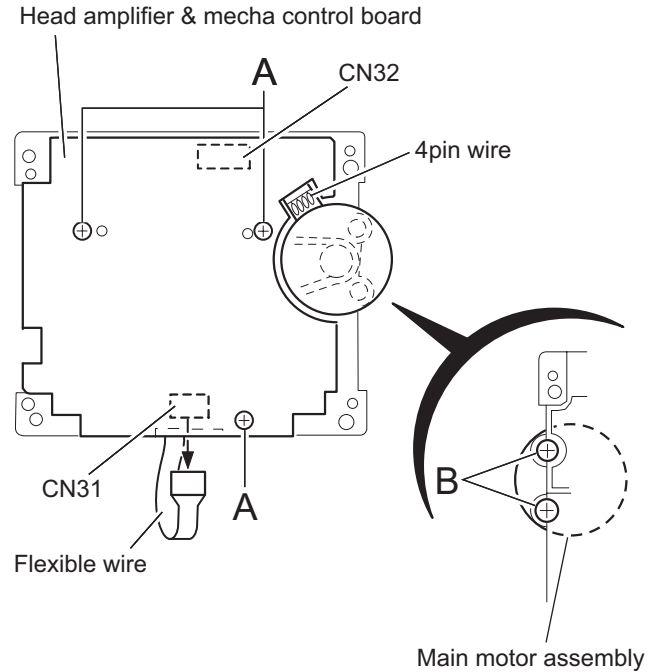

Fig.4
3.2.2 Removing the head amplifier & mechanism control board (See Fig.4)